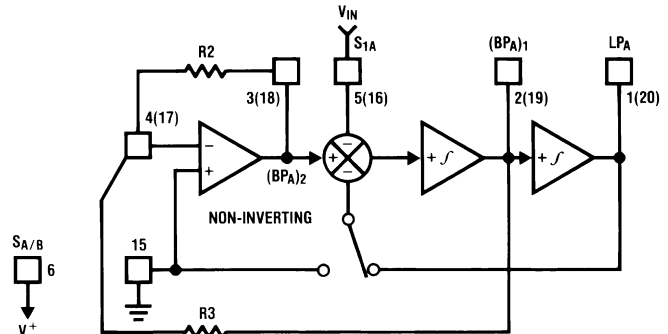

Figure 41. MODE 1a
8.4.1.2 MODE 1a: Noninverting BP, LP (See Figure 41)